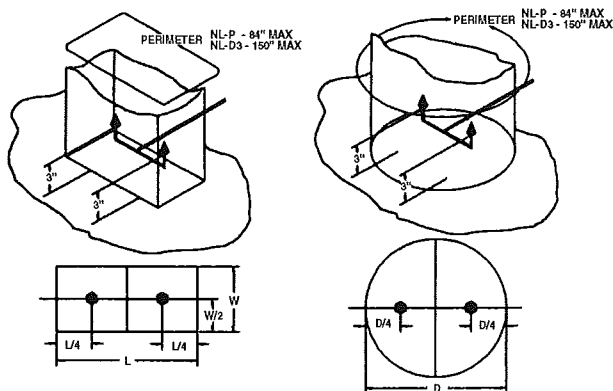

Figure 3-2.1. Dual Nozzle Placement In Duct.
Two (2) Model NL-P exhaust duct nozzles can protect a square or rectangular duct with a maximum perimeter of 84 inches and a maximum one-side length of 34 inches. They can also protect a round duct with a maximum circumference of 84 inches and a maximum diameter of 26.5 inches. When two (2) Model NL-P nozzles are used to protect a single duct, the cross sectional area of the duct must be divided into two equal symmetrical areas. The nozzle must then be installed on the centerline of the area it protects and aimed directly into the duct opening (see **Figure 3-2.1**).
Two (2) Model NL-D3 exhaust duct nozzles can protect a square or rectangular duct with a maximum perimeter of 150 inches and a maximum one-side length of 66 inches. They can also protect a round duct with a maximum circumference of 150 inches and a maximum diameter of 47.5 inches. When two (2) Model NL-D3 nozzles are used to protect a single duct, the cross sectional area of the duct must be divided into two equal symmetrical areas. The nozzle must then be installed on the centerline of the area it protects and aimed directly into the duct opening (see **Figure 3-2.1**).